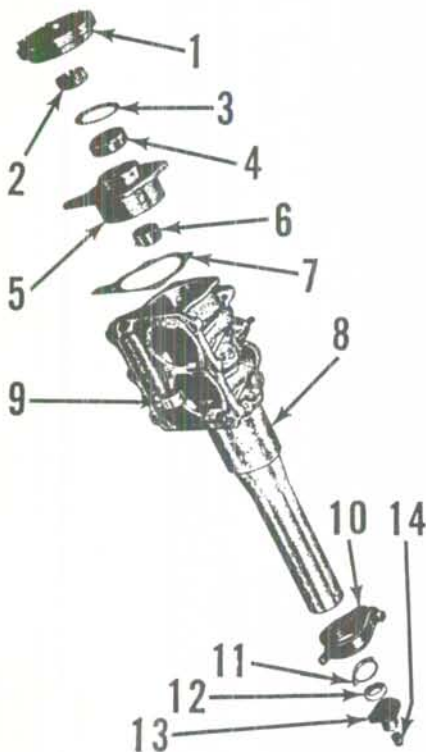

Fig. M1-8—Exploded view of the one-piece crankcase and associated parts.
R&R AND DISASSEMBLE. To remove the power head assembly, first remove the top cowl, then disconnect and remove the shift cable. Remove the slotted special screw in front top of lower unit driveshaft housing, loosen the clamping bolt at top rear of driveshaft housing, then withdraw the lower unit assembly downward out of swivel bracket and power head assembly. Loosen the clamping screw in co-pilot locking ring (10—Fig. M1-8) and withdraw the power head assembly upward out of swivel bracket and lower cowl.
Remove the screws retaining water inlet cap (13—Fig. M1-8) from crankcase pivot tube using Mercury tool number 91-24279, or a No. 1 Phillips screwdriver socket and extension. Remove the water inlet cap (13).